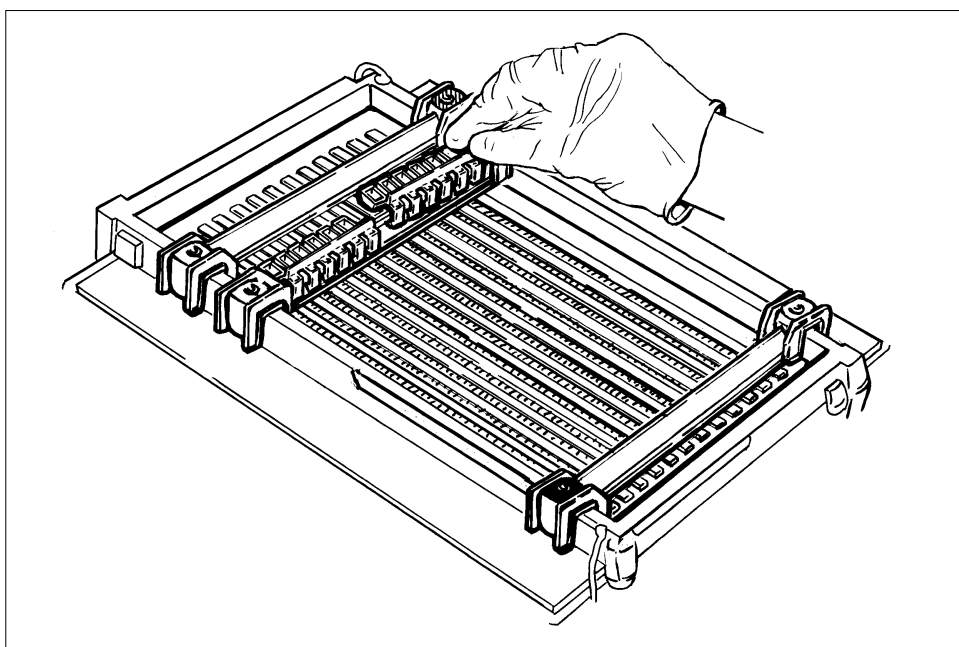

Fig. 16.
- Put the sample cups on the sample cup bar. Place the cups high enough on the bar to avoid touching the gel surface. Put the sample cup bar in position so that the sample cups are a few millimeters away from the cathodic or anodic electrode. The sample cups must face the electrode (Fig. 16).